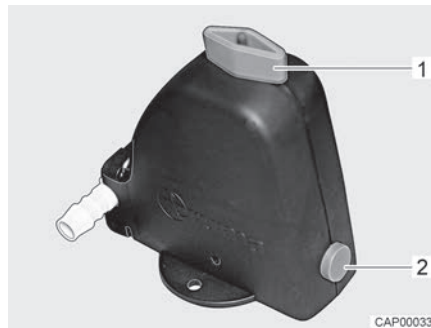
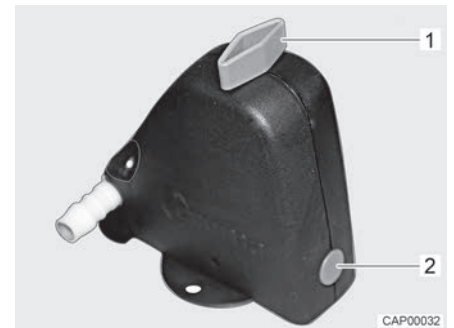

Fig. 107 Safety/drainage valve open
Fig. 108 Safety/drainage valve closed
- Close the safety/drainage valve. Turn the knob (Fig. 107,1) perpendicular to the safety/drainage valve and push the push button (Fig. 107,2) in. The closed safety/drainage valve is shown in Fig. 108. If the temperature is below 6 °C, the safety/drainage valve cannot be closed.